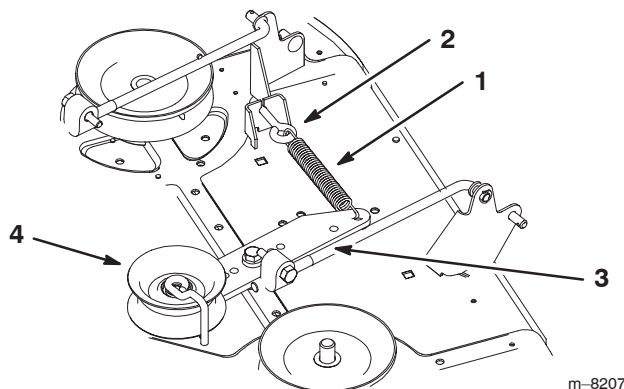

Figure 36
7. Unhook the spring on the idler pulley arm from the bracket on the mower (Fig. 36).